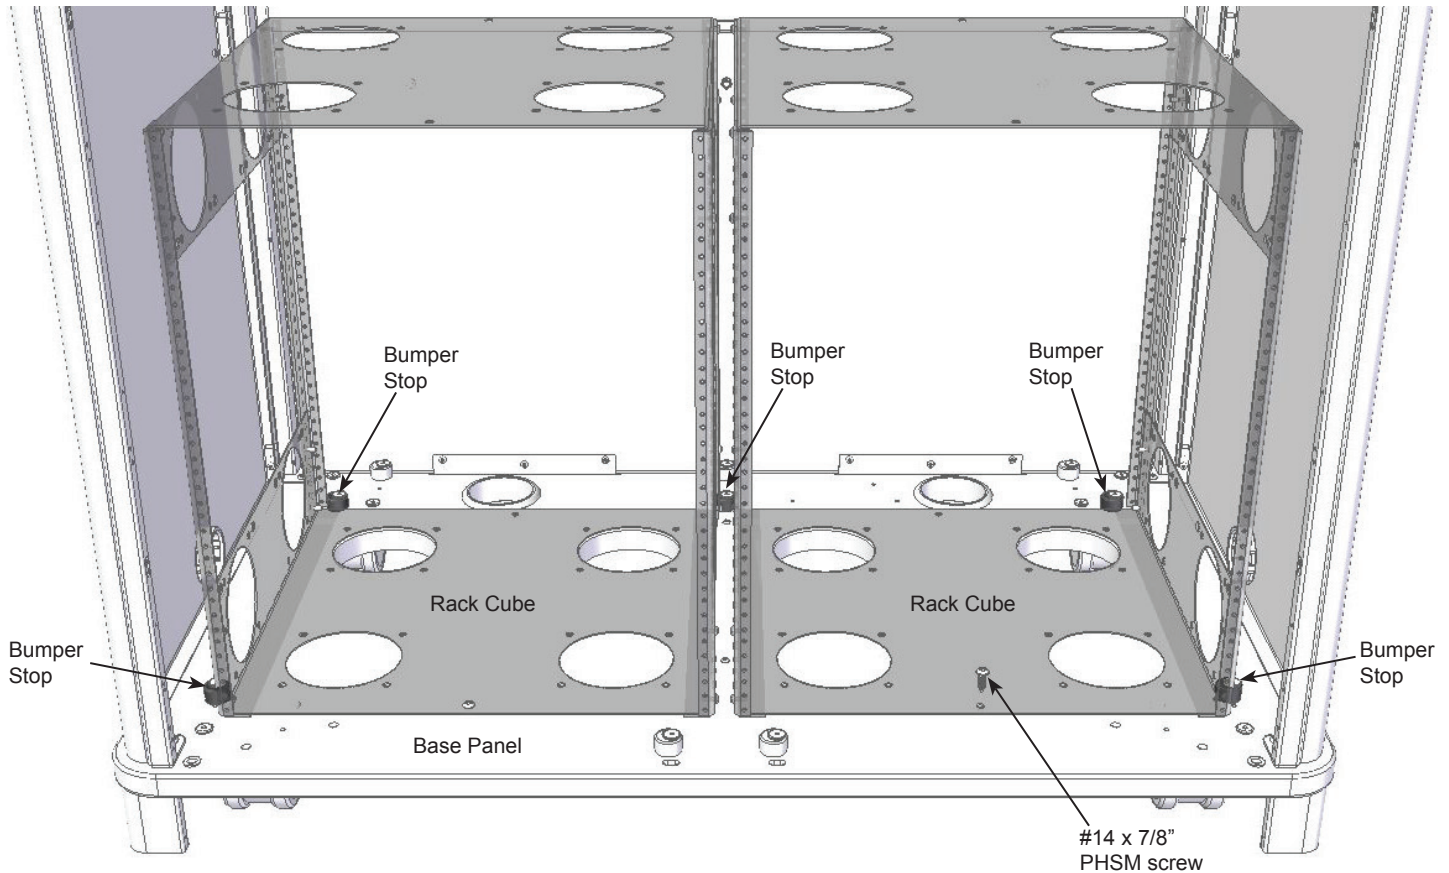

Figure 3
2. Install the (3) bumper stops to the base panel as shown with one 7mm x 30mm JCW screw each. **Figure 3.**
4. Secure the cube to the base panel with (1) #14 x 7/8" PHSM screw and tighten securely.